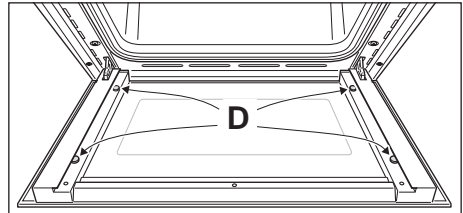

Fig. 8.12c
IMPORTANT: It is advisable, while removing the glass, to keep pressed in position the four rubber pads "D" (fig. 8.12c), by a finger, to avoid breakage or slippage of the rubber pads themselves.
1. Make sure the door is locked open (see fig. 8.12c).
- Check that the four rubber pads are in place ("D" in fig.8.12c).